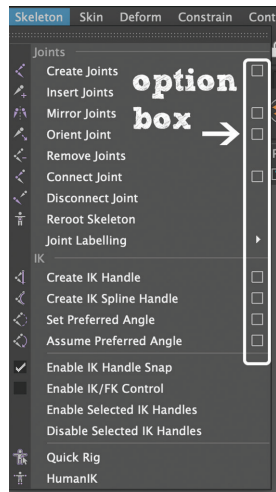

FIGURE 0.2 Menu items with option boxes to the right.
2. **Menus.** The Menu bar displays seven common dropdown menu items (File, Edit, Create, Select, Modify, Display, and Windows), and the remaining menu items change based on the current menu set. The current menu set can be changed using the hotkeys (above). Some tools in the menus have little boxes next to their name on the right. These are called option boxes, and clicking on one will open an options window where settings can be changed for that tool. As I refer to menu items, they will appear in brackets as follows: [Menu > Submenu > Submenu – Option Box]. (Figure 0.2)